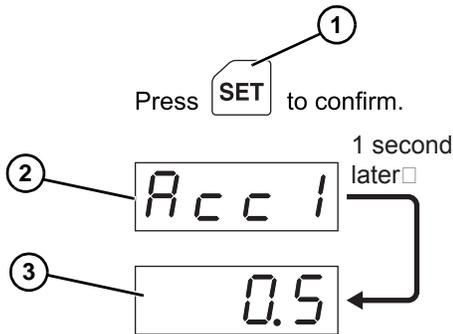

Figure 28
- After the speed has been changed, press SET (Figure 28, item 1) to confirm the new setting. The display will blink and show “Acc1” (Figure 28, item 2), after which the acceleration time (Figure 28, item 3) will be displayed